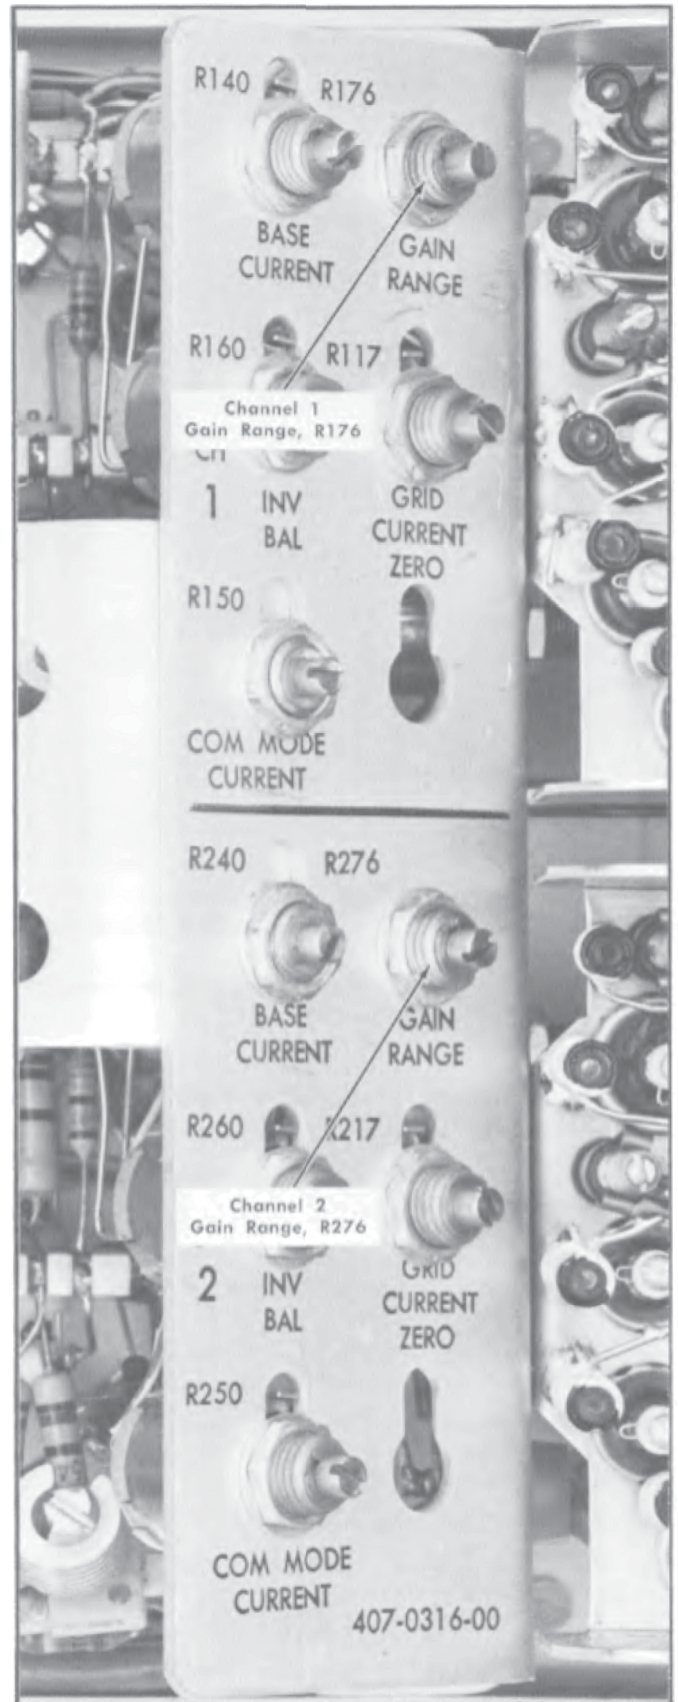

Fig. 6-6. Location of channel 1 Gain Range control, R176 and channel 2 Gain Range control, R276.
- j. ADJUST—Ch 1 Gain Range control, R176 (see Fig. 6-6) for a display exactly 5 cm high.
- g. ADJUST—Ch 2 Gain Range control, R276 (see Fig. 6-6) for a display exactly 5 cm high.
- j. ADJUST—Ch 2 Gain Range control, R276 (see Fig. 6-6) until the display consists of only a single trace, i.e., the channel 1 and 2 signals have completely cancelled each other.